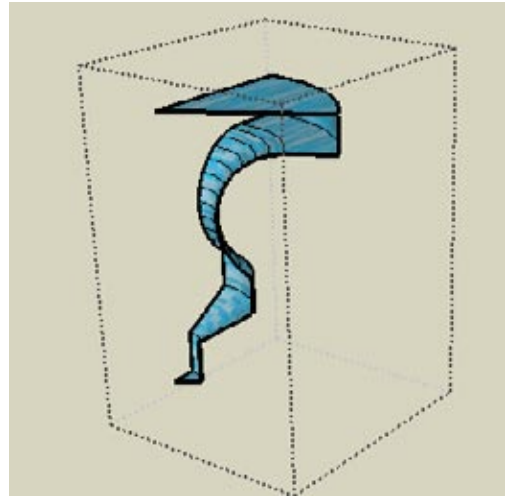

Figure 4-30
10. While the component is still open, open the Components page of the Model Info window to hide the rest of the model, and trim away the extra portions of the group (Figure 4-30).